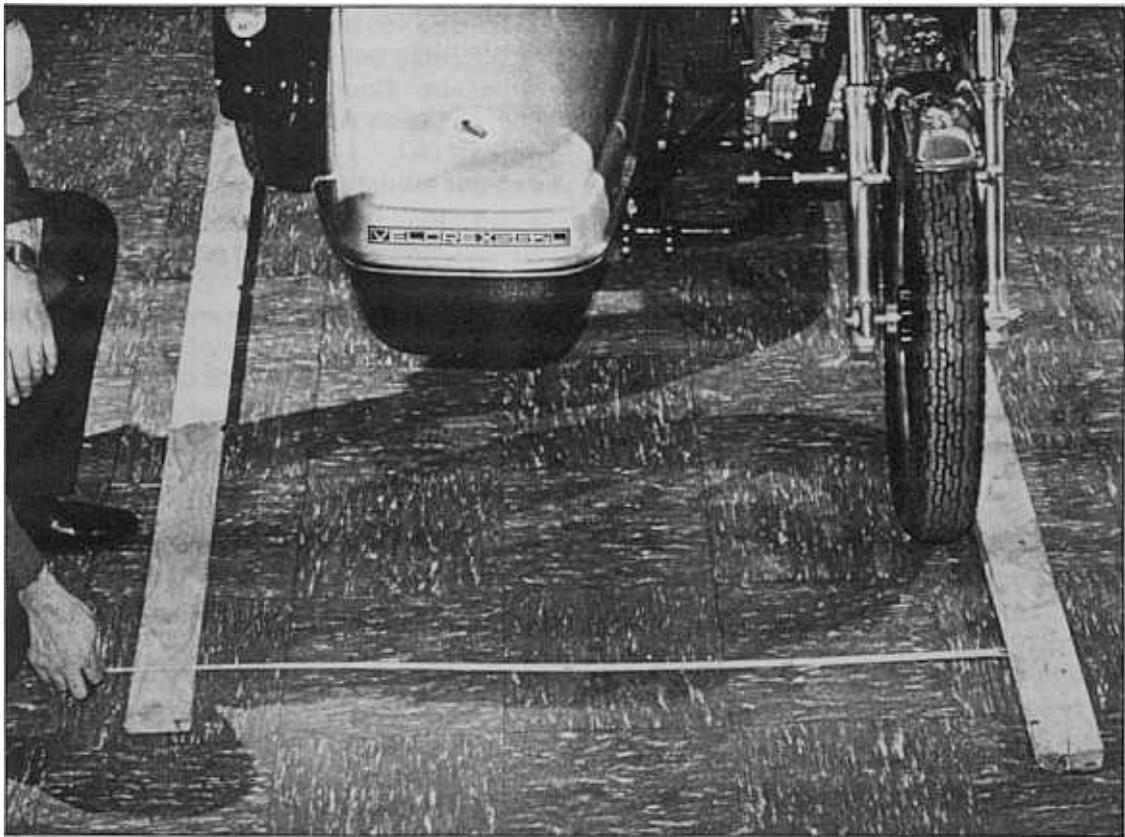

FIGURE 11. Take Toe-in measurement about one foot ahead of the front tire. Distance must be between 1/2 inch to 3/4 inches less than at rear.
1. Place one of the long straight strips of wood against the outside edges of both motorcycle tires, with the front wheel facing straight ahead. Place the other strip of wood against the outside edges of the sidecar tire. See figure 11.
Toe-in difference at the front must be between a $\frac{1}{2}$ inch to $\frac{3}{4}$ of an inch less than at the rear. See figure 11. If the distance difference at the front is greater, turn the front top and bottom **Clevis Adjusting Bolts** clockwise (tightening).
1. Refer to Section B for information regarding adjustments. See figures 11, 12, 13, 14 and 15.